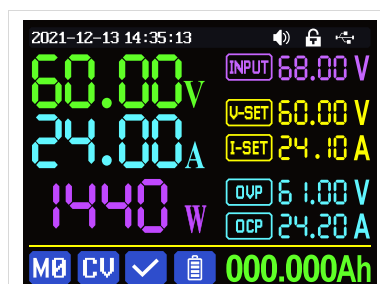

figure 11
**Digits Style** is set to Normal by default, you can set it to Normal/7-Seg V1/7-Seg V2 (as shown in figure 11).